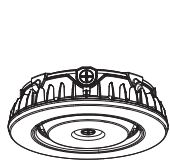

Figure 1-1
1. Disassemble the driver box cover. Figure 1-1